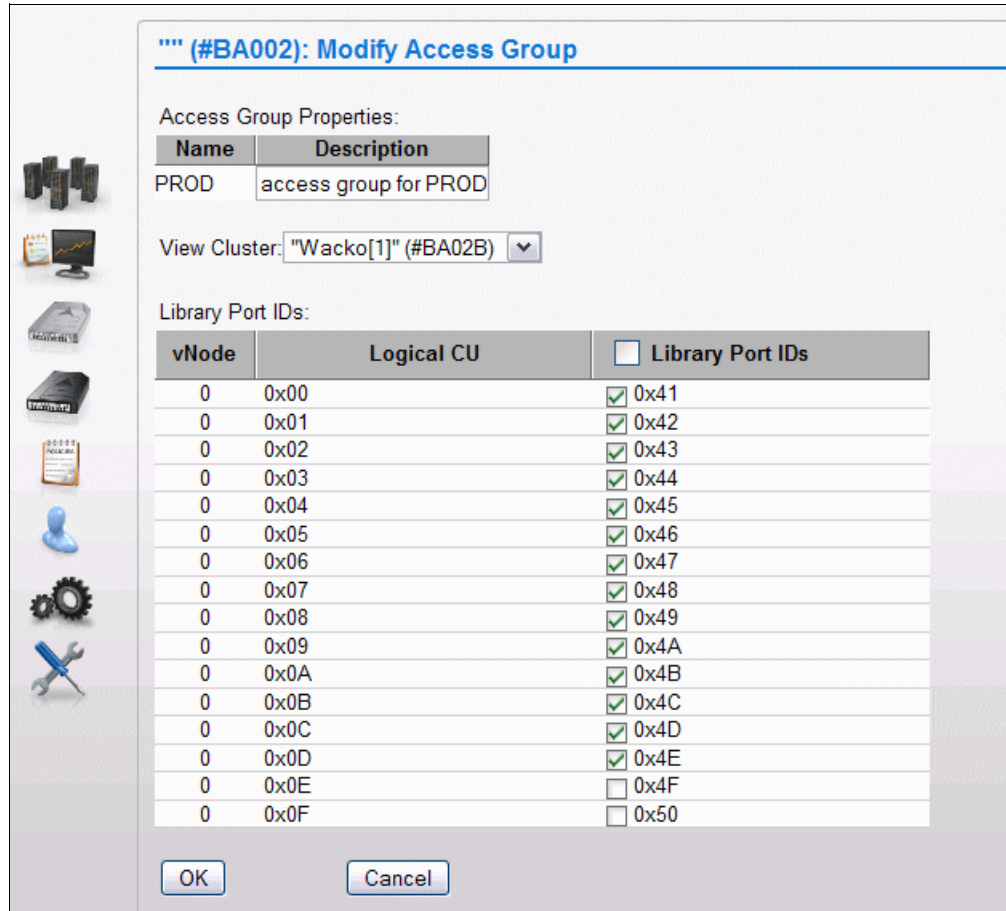

Figure I-13 Modify the access group for PROD LPAR
3. Define 41-4E on Cluster 1, as shown in Figure I-13.